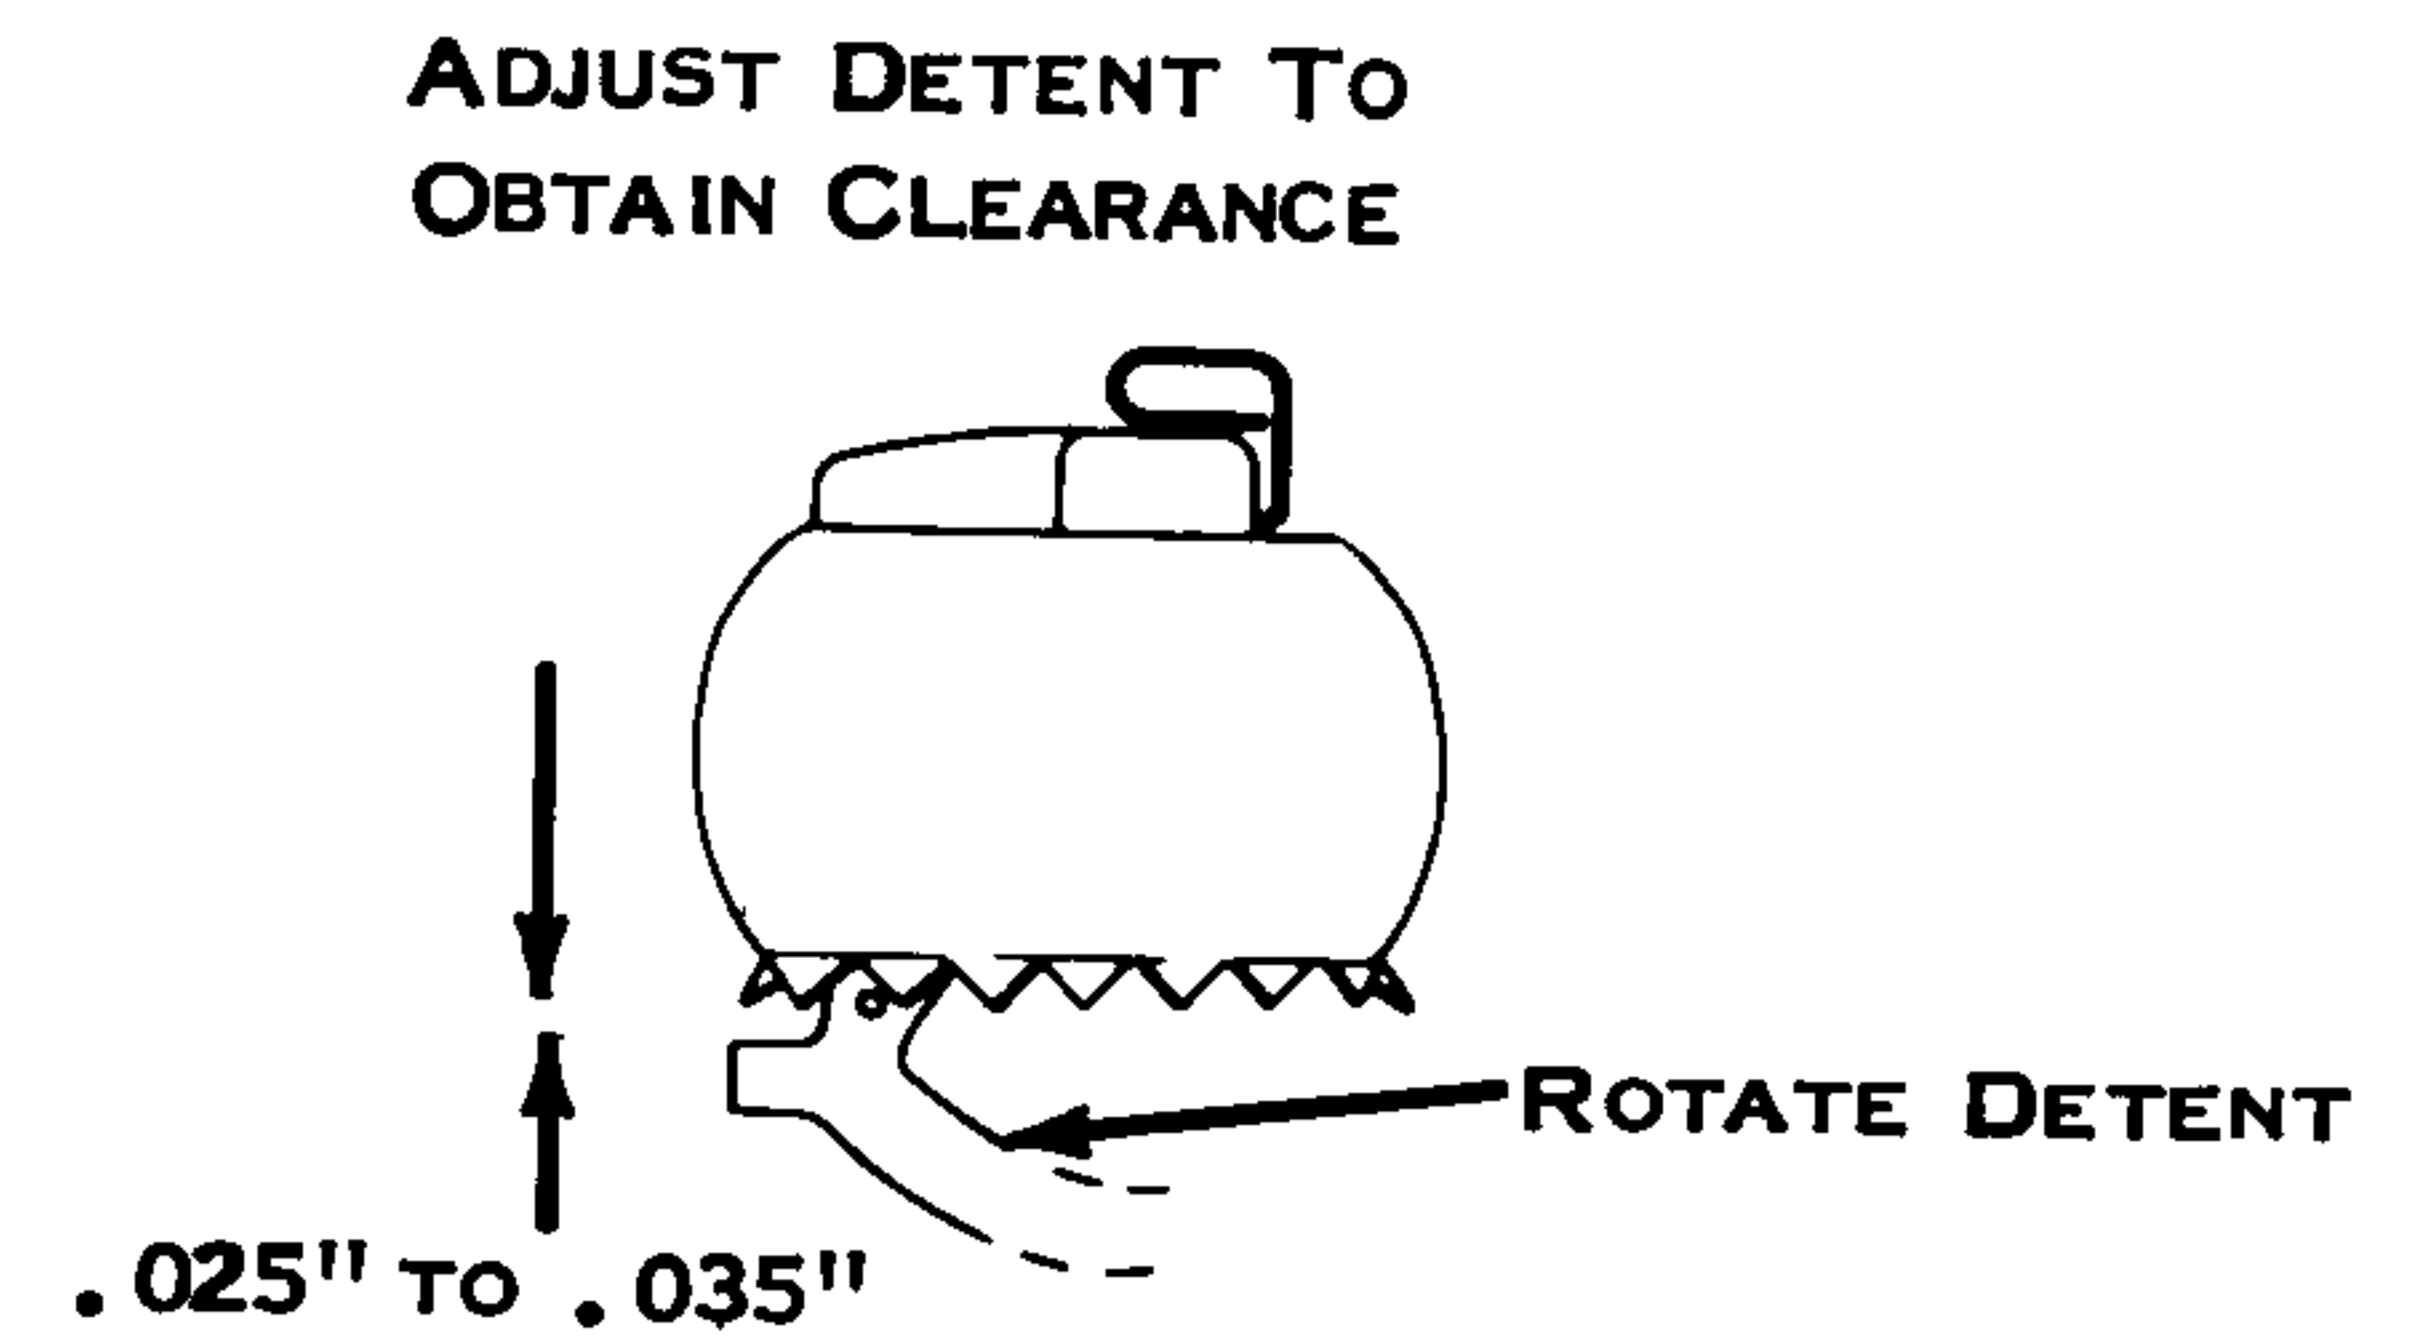

Figure 67. Detent Lever Support
9. Detent Lever Support Prior To Gearless Tilt (Fig. 67) - Loosen locking screw and adjust as follows: